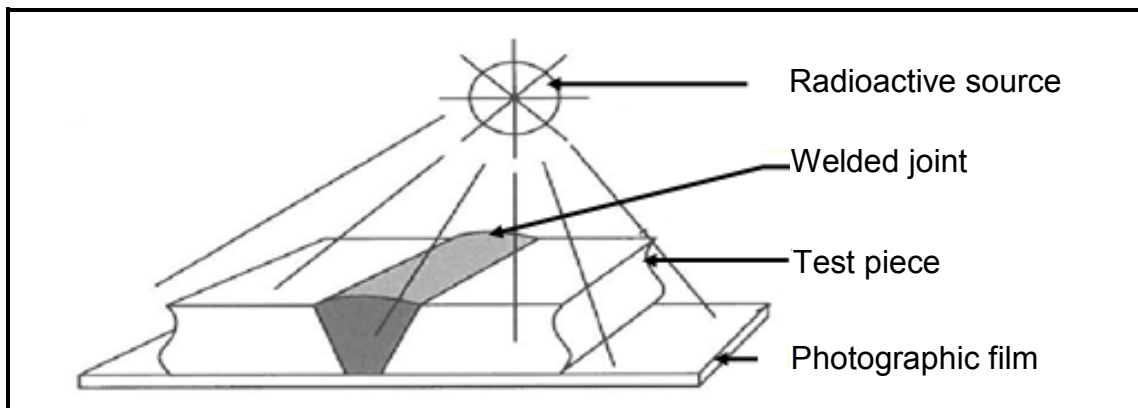

FIGURE 4.10
- D Welding helmet (1)
- 4.10 Which testing process is represented in FIGURE 4.10 below?